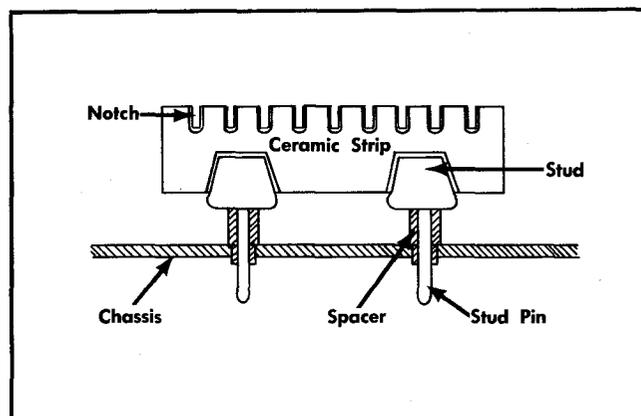

Fig. 4-4. Ceramic terminal strip assembly.
**Ceramic Terminal Strip Replacement.** A complete ceramic terminal strip assembly is shown in Fig. 4-4. Replacement strips (including studs) and spacers are supplied under separate part numbers. However, the old spacers may be re-used if they are not damaged. The applicable Tektronix Part Numbers for the ceramic strips and spacers used in this instrument are given in the Mechanical Part List.